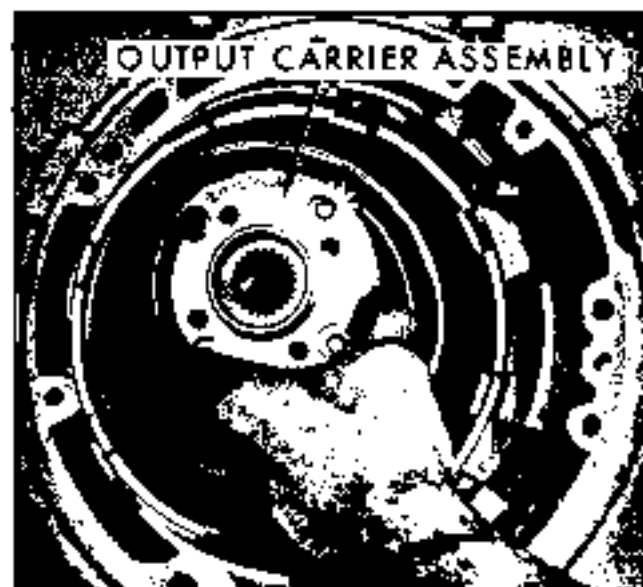

Fig. 7G-28 Removing Output Carrier Assembly
18. Remove reaction carrier assembly from output ring gear and shaft assembly (Fig. 7G-33).